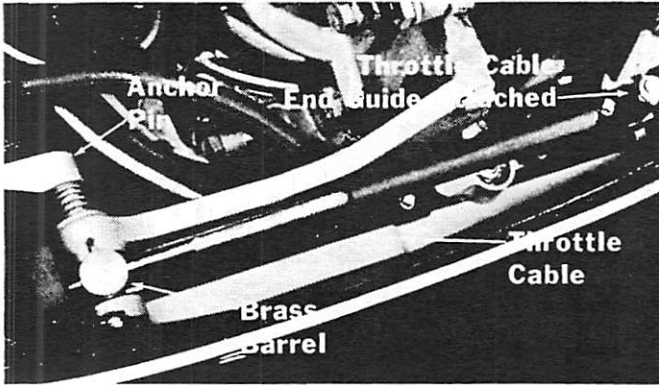
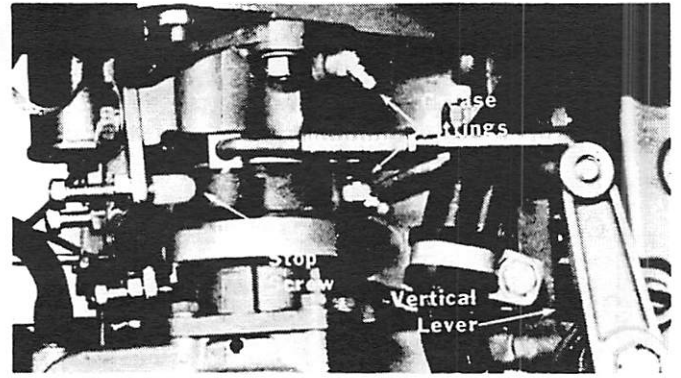

Figure 9. Securing Brass Barrel with Anchor Pin
Figure 10. Vertical Lever and Idle Stop Screw
2. Secure brass barrel (on throttle cable) in position with anchor pin. (Figure 9)
3. Position vertical lever so that distributor is held lightly against idle stop screw. (Figure 10) Attach cable end guide to vertical lever swivel without disturbing setting. (Figure 9) If necessary, readjust brass barrel for correct position and to compensate for cable backlash.
4. Move single lever remote control handle to forward position and then back to neutral position. Check that distributor is held lightly against idle stop screw (Figure 10) when control handle is in neutral position.